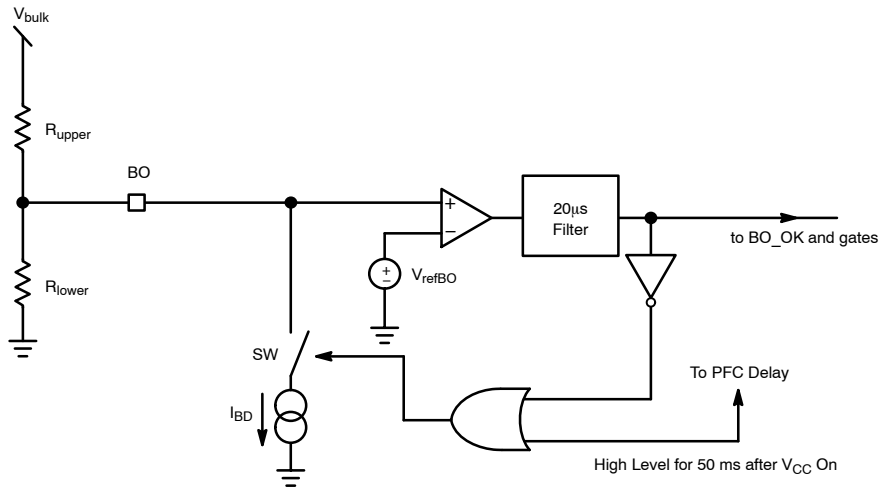

Figure 23. The internal Brown-Out Configuration with an Offset Current Sink
The Brown-Out circuitry (BO) offers a way to protect the application from low DC input voltages. Below a given level, the controller blocks the output pulses, above it, it authorizes them. The internal circuitry, depicted by Figure 23, offers a way to observe the high-voltage (HV) rail.